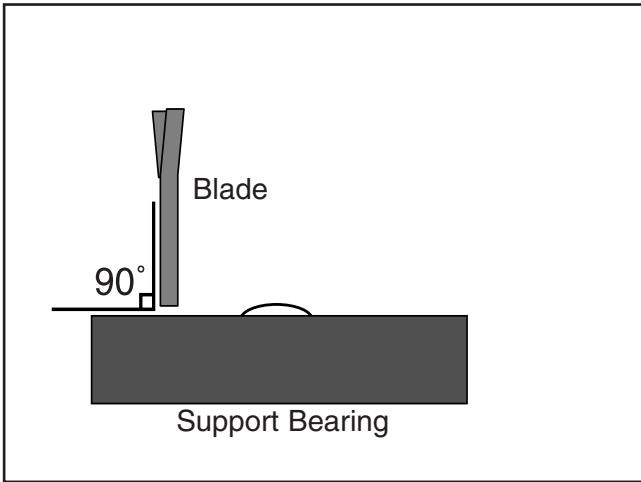

Figure 27. Illustration of blade set perpendicular (90°) to the support bearing face.
4. Loosen the guide block assembly cap screws and rotate the blade guide assembly side-to-side, until the blade is perpendicular with the face of the support bearing, as illustrated in **Figure 27**.
5. Make sure that the blade is perpendicular to the face of the support bearing, as illustrated in **Figure 27**.